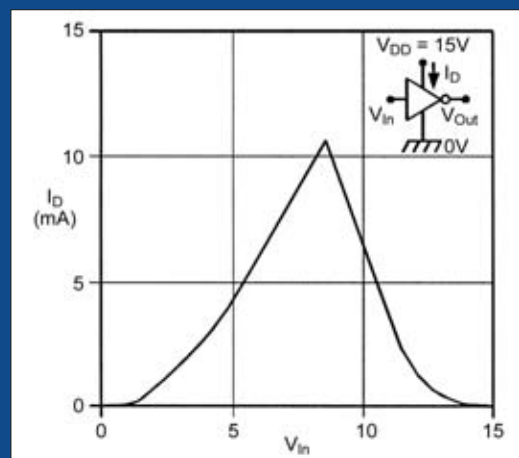
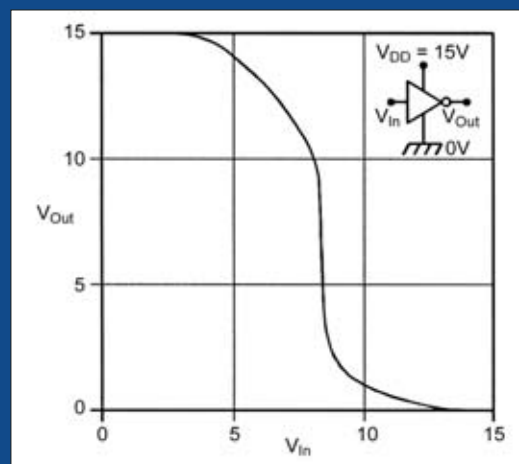

FIGURE 5. Typical drain-current transfer characteristics of the simple CMOS inverter.
FIGURE 6. Typical voltage transfer characteristics of the simple CMOS inverter.
There are lots of schematics for PIC programmers [9] and free PIC programmer software [10] on the Internet. I like the TAIT programmer hardware. It uses the PC's parallel port and the PIPVb programming software shown in Figure 5. Just make sure the programming software is tested on the operating system you are using and works for the PIC18F2455 since the programming algorithm was changed by Microchip for this PIC [11].
■ FIGURE 6. Nixie tube driver circuit.
Now that we have completed our boost power supply, let's use it to power an application. There are several applications we might use the boost power supply for. We could use it as a 13-volt, DC power supply to supply programming voltage for a USB PIC programmer [13]. Or, we could supply 170 volts DC at 2.5-4 mA to drive a Nixie tube [14]. Nixie tubes are the precursors to the alphanumeric LEDs of today. (See this month's project for Building a Nixie Clock.) They are no longer manufactured in the USA, but they can be found on eBay from sources in Russia and the Ukraine. Figure 6 shows additional circuitry necessary to drive a Nixie tube.
15 volt basic CMOS inverter, they produce the typical drain-current transfer graph shown in Figure 5, and the voltage transfer graph of Figure 6; these graphs can be explained as follows.
Suppose in Figures 5 and 6 that the CMOS inverter's input voltage is slowly increased upwards from zero. The inverter current is near zero until the input exceeds the n-channel MOSFET's threshold voltage, at which point its resistance starts to fall and that of the p-channel MOSFET starts to increase. Under this condition, the inverter current is dictated by the larger of the two resistances; when the input is far less than half-supply volts, the n-channel MOSFET resistance is far greater than that of the p-channel device, so the output is high (at logic-1).
Thus, the A-series type of inverter gives an output that switches fully between the supply rail values only if its input voltage swings well above and below its two internal threshold voltage values. Note (from Figure 5) that the CMOS draws a brief pulse of supply current each time it goes through a switching transition; the more often CMOS changes state in a given time, the greater are the number of current pulses that it takes from the supply and the greater is its mean current consumption. Thus, CMOS current consumption is directly proportional to switching frequency.